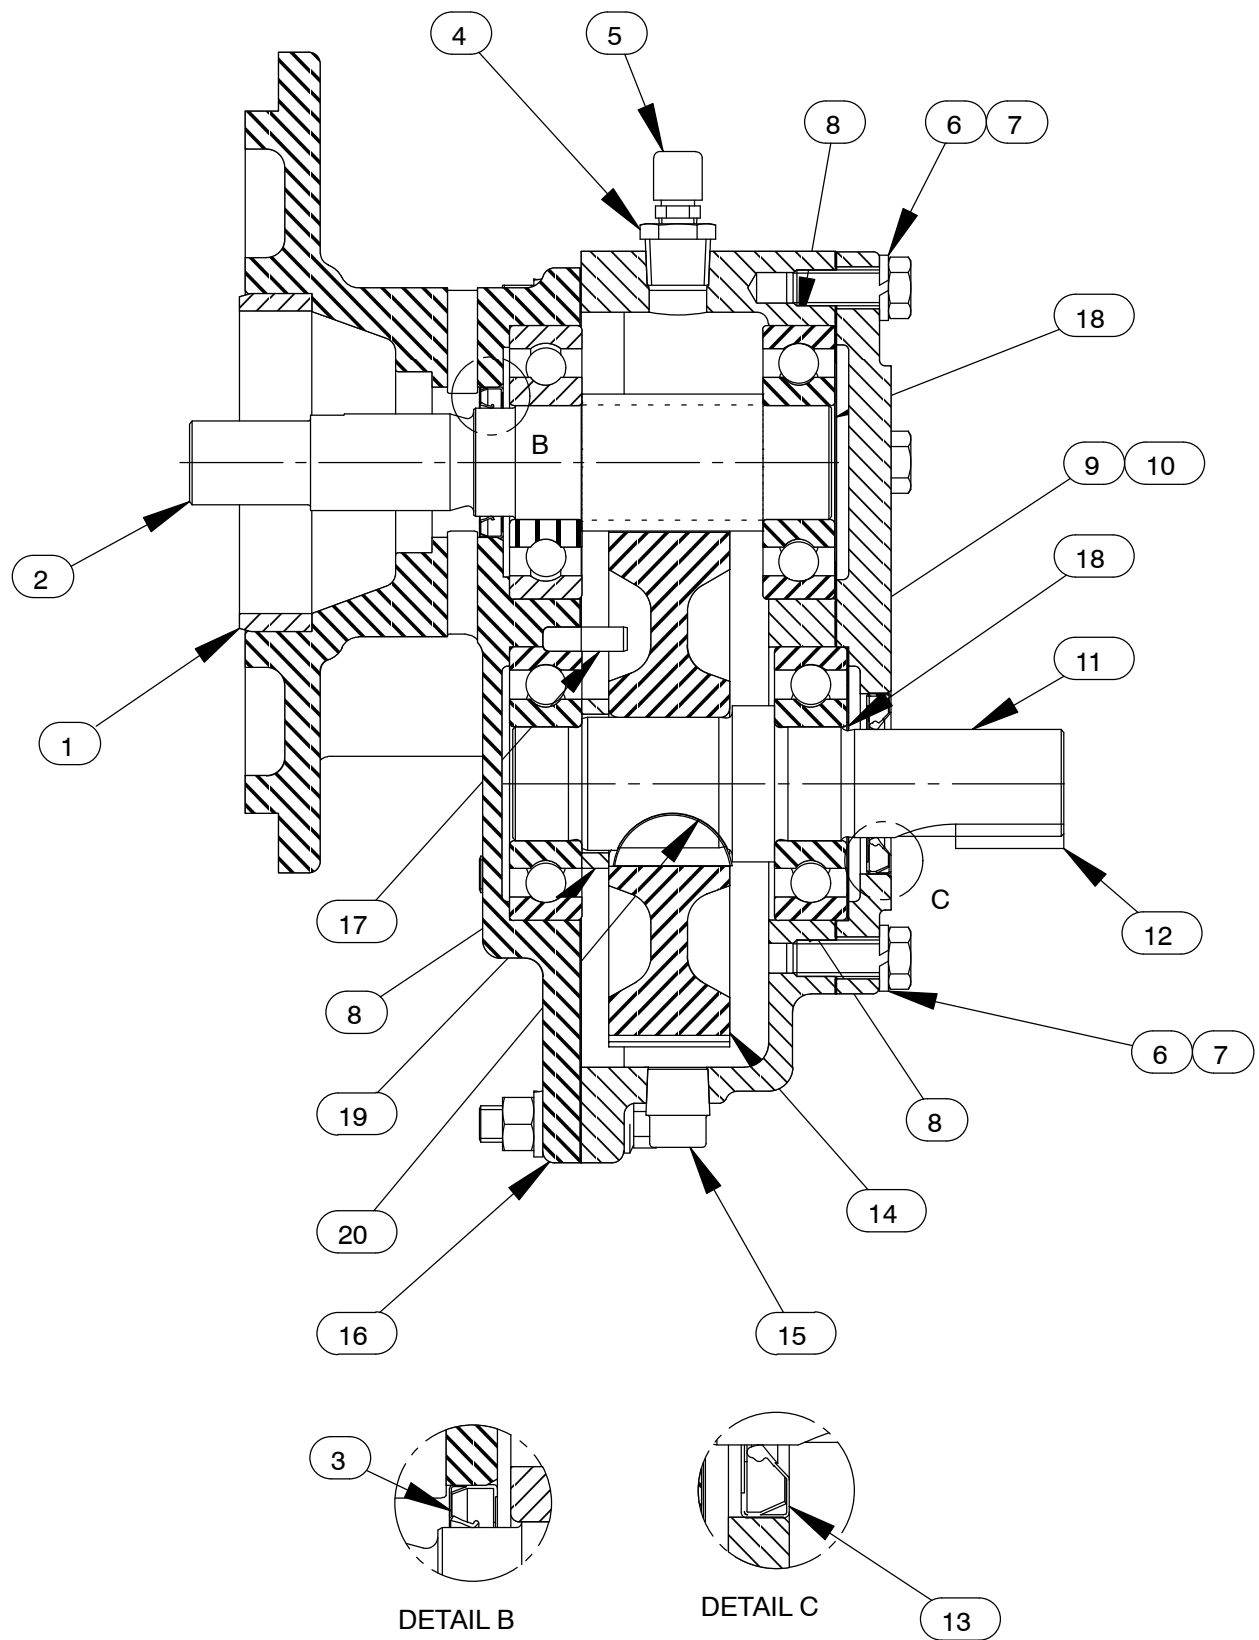

Figure 2. 44161-014 Gearbox Assembly
To service the impeller, wear ring or seal assembly, the pump casing (1) must be separated from the seal plate (27, Figure 2).
To loosen the impeller screw (21), immobilize the drive shaft (14, Figure 2). Remove the impeller screw, lockwasher (22), and impeller washer (19).
Inspect the pinion shaft (2, Figure 2) for distortion, nicks, scratches, or damage to the shaft keyway. Dress small nicks or burrs with a fine file or emery cloth. If excessive wear exists, refer to **GEARBOX DISASSEMBLY** and replace the shaft.